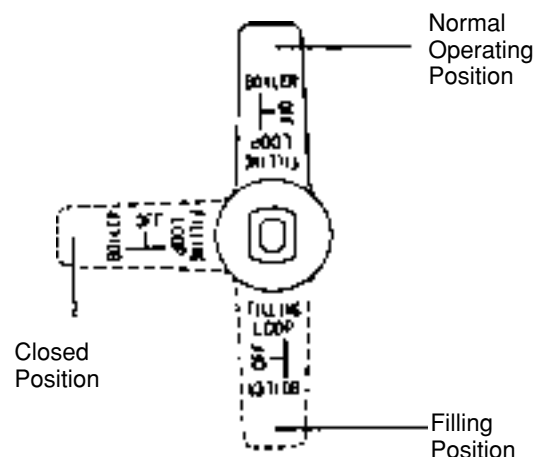

Fig. 20
The filling/inlet valve has 3 positions. (Fig. 20)
6.3.5.2 Turn filling/inlet valve to the normal operating position (vertically up). See fig. 20